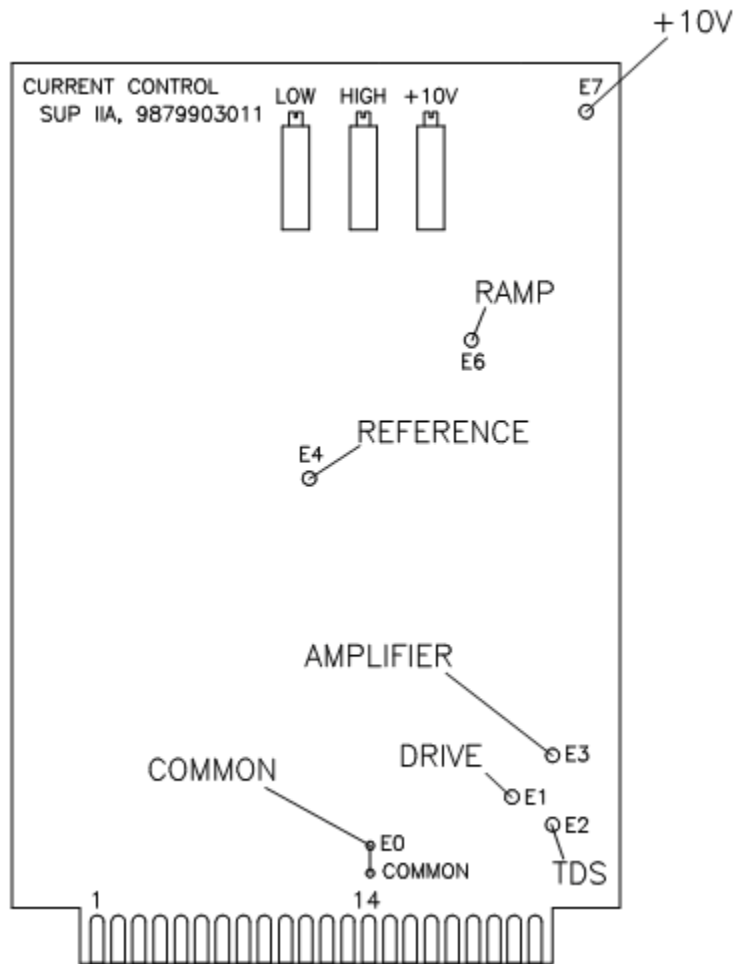

Figure 8 - Current Control Board Adjustments
9.2.3. CONTROL SWITCH (see fig 8).